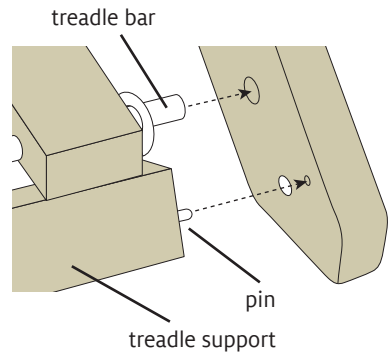

FIGURE 5: ALIGN TREADLE ASSEMBLY
5. *All looms:* Spread apart the inside legs and move the treadle assembly into position, making sure that the washer stays in place on the right end of the treadle bar. Line up the treadle assembly with the holes in the leg that do not go all the way through the legs—the treadle bar fits into the large hole and the pin at the end of the treadle support fits into the small hole. Insert the pins and treadle bar into their holes (Figure 5).